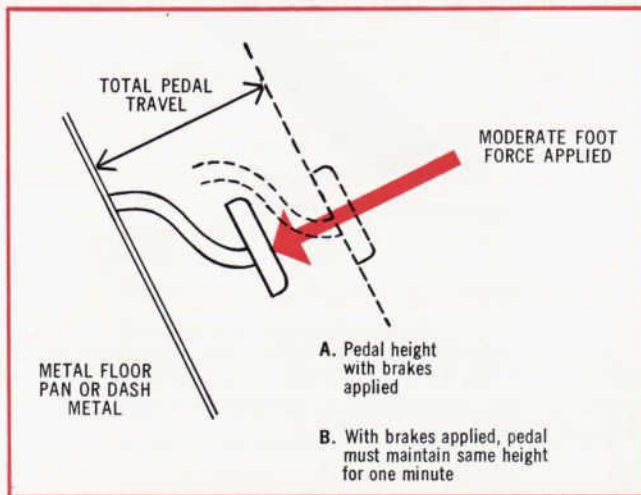

Figure 2—Checking Hydraulic System for Leakage
As shown in figure 2, apply a moderate foot force (40-60 pounds in non-powered systems) or (15-20 pounds in power assisted systems). The pedal must maintain the same pedal height for ONE (1) minute. If not, the brake system should be more thoroughly checked to find the cause.